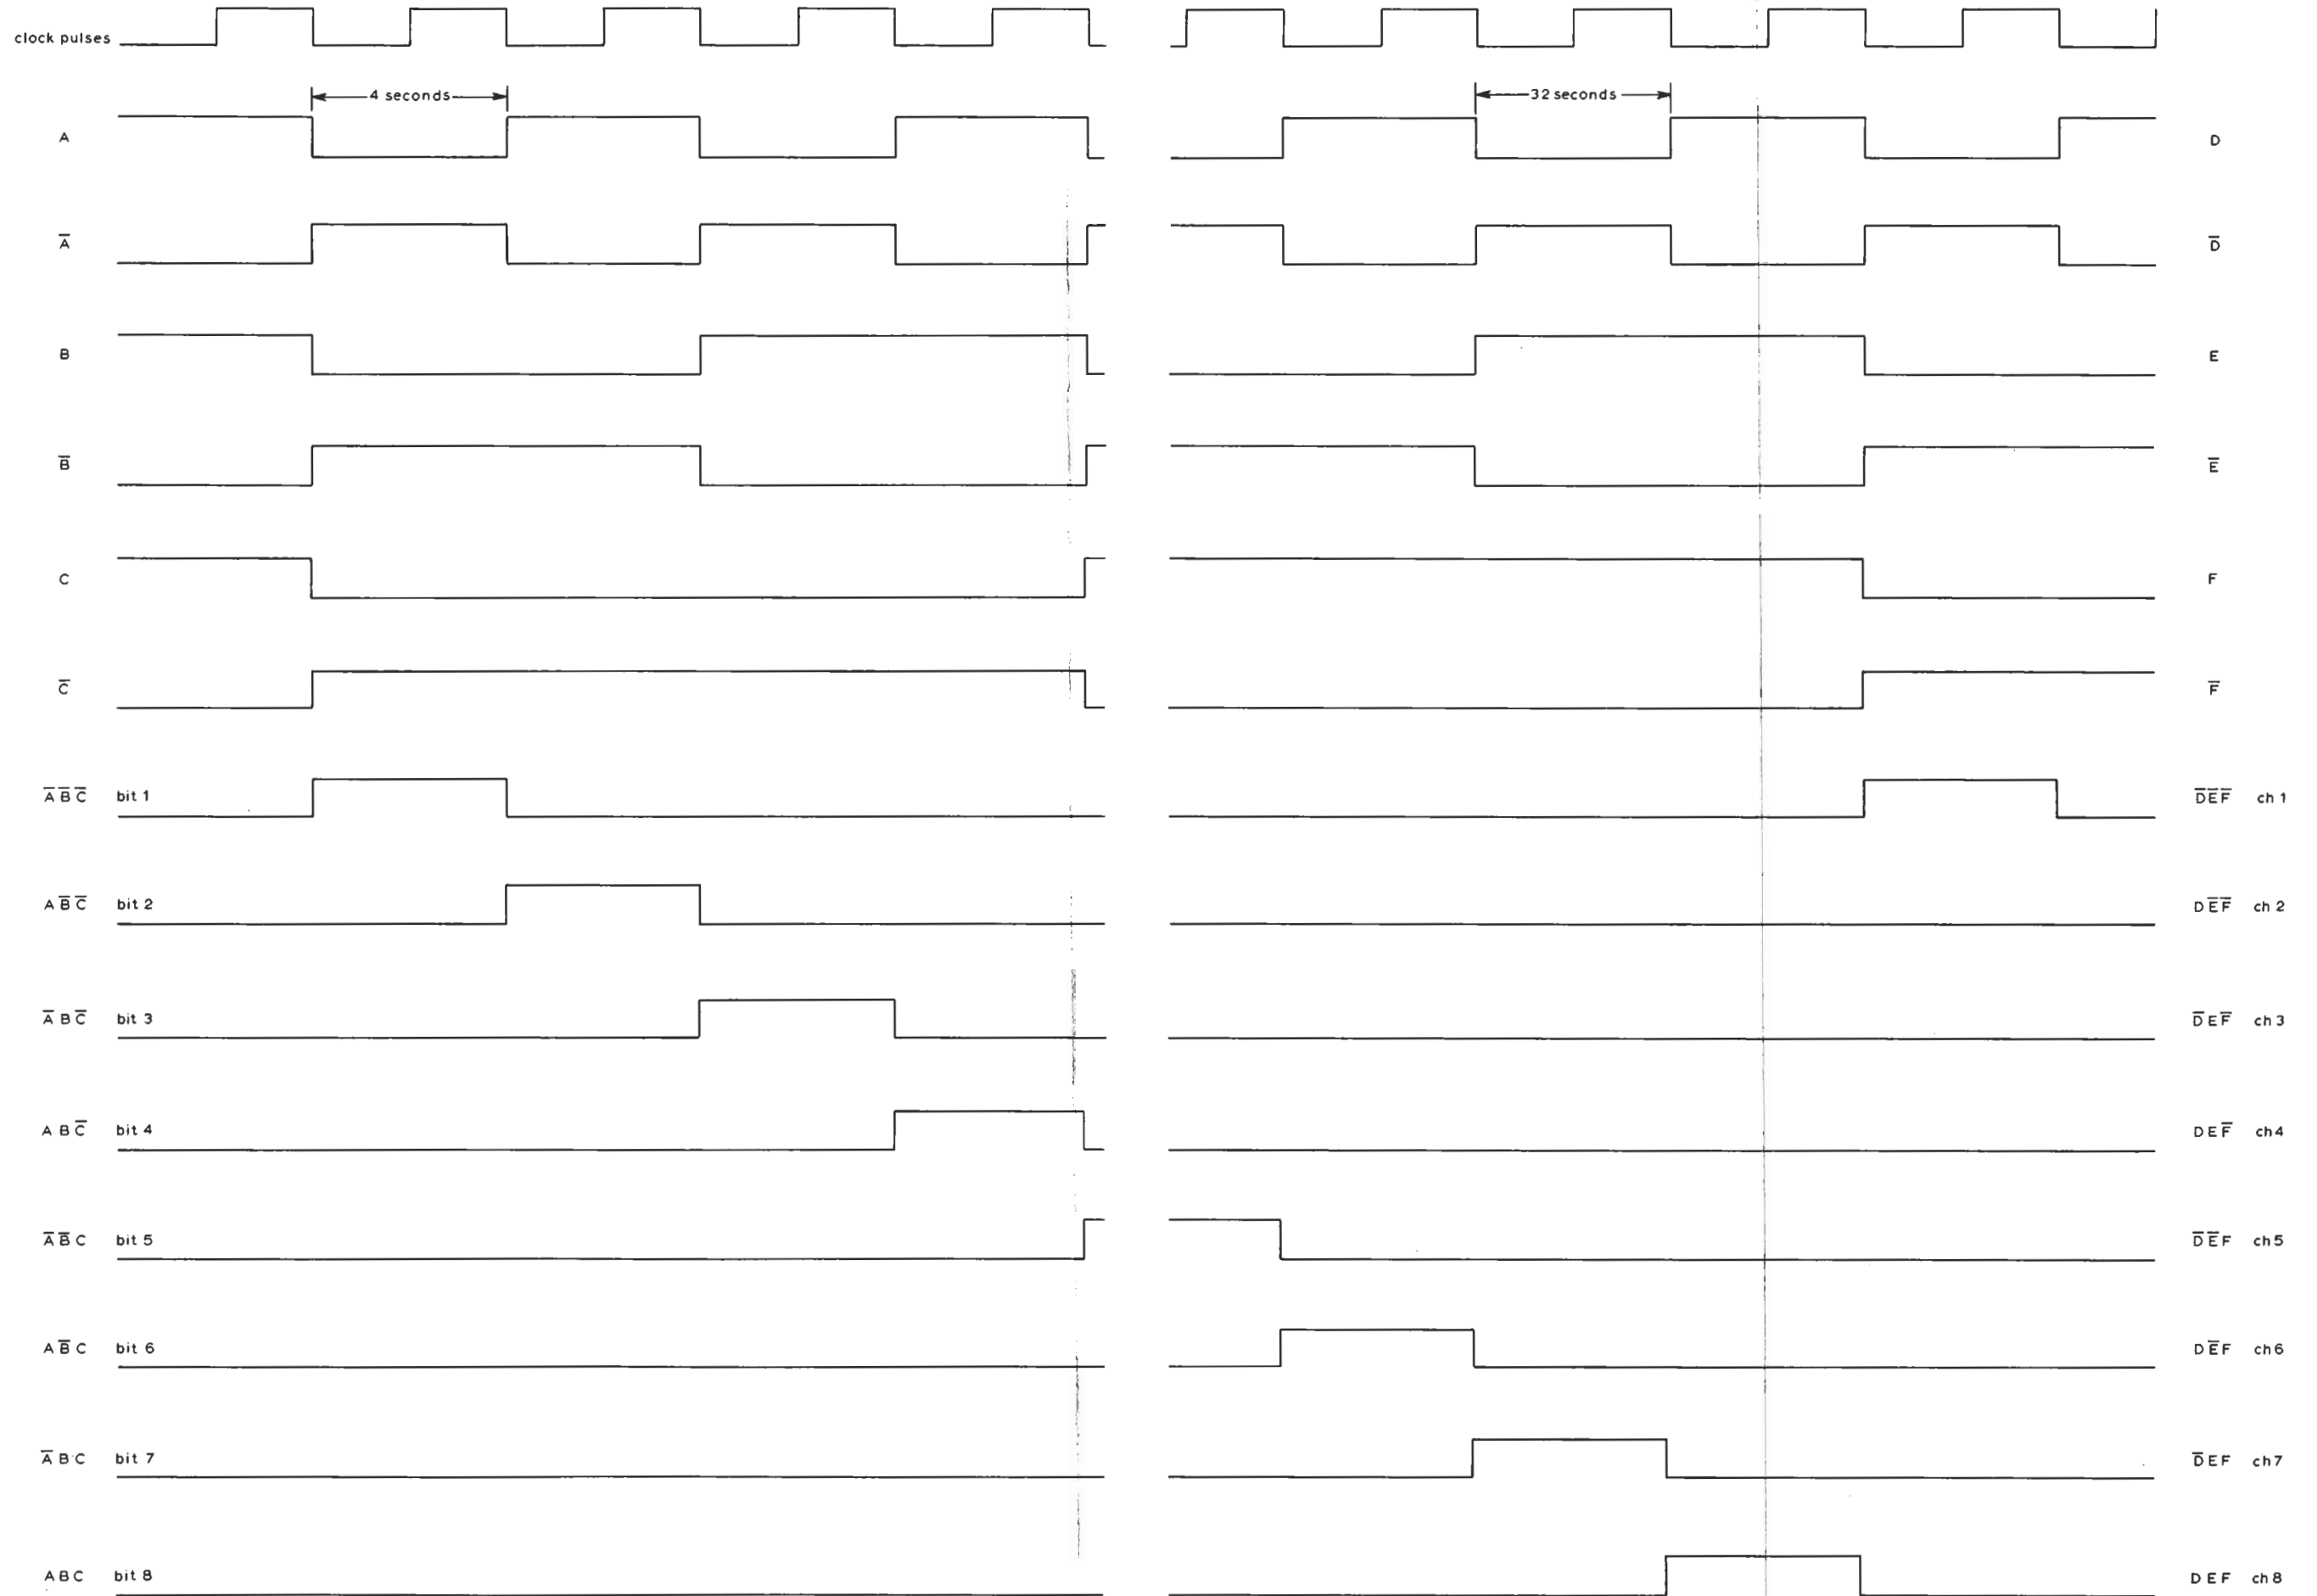

Fig. 2. Waveforms of Bit and Channel Information
The main part of the gating unit is a six-stage divide-by-64 ripple-through counter. Each stage, circuits IC1 to IC6, comprises a master-slave JK-bistable. Outputs from the various stages of the divider chain are taken to 16 gates and 16 inverting gates which feed the 16 output points. The outputs are divided into two groups of eight. One group produces pulses known as Bits and the other group pulses eight times as long known as Channels. The Bit and Channel waveforms, and their component waveforms, are shown in Fig. 2.
5. Check, by reference to Figs. 2 and 3, that the correct outputs are produced.